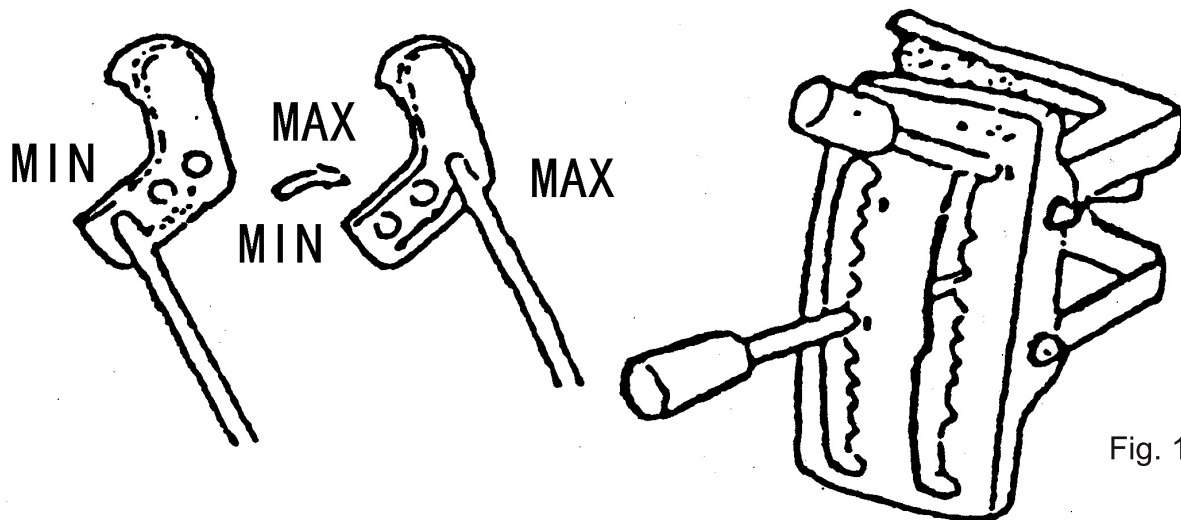

Fig. 12
2) Dusting. Regulate the discharge rate by shifting the dust rod's position in the three holes of the rock-arm. See Fig 12